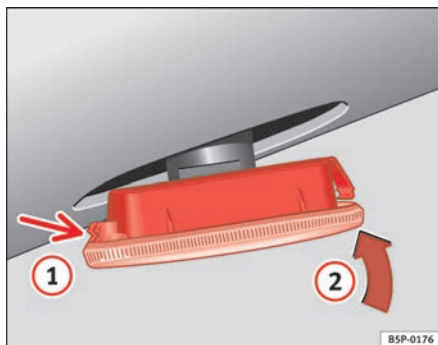

Fig. 190 Side indicator
- First place the indicator in the opening in the bodywork, fixing the tabs ⇒ fig. 190, arrow ①.
- Insert the bulb as shown by the arrow ② ⇒ fig. 190. ■